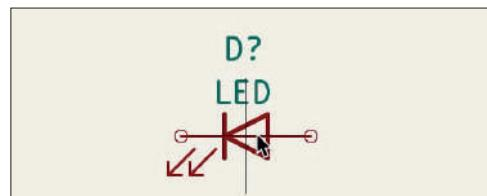

Figure 3.6.3: The new symbol in the editor sheet.
You can look for a symbol by typing a few letters of its name in the search box (1) or navigate the library and symbol list (2). In the example above, I am looking for the LED symbol, so I have typed “led” in the search box. The symbol chooser narrows down the contents of the listing pane (2) to symbols that contain “LED” in their name. I have clicked on the item in the first row. This prompts the symbol to appear in the symbol preview pane (3). Information about the selected symbol appears in the bottom left corner pane of the window. Some symbols also have associations with one or more footprints. You can choose one of the footprints by using the drop-down menu (4) and verifying that you have the correct association in the footprint preview pane (5). In my example, I don’t want to set an association at this time, so I leave the footprint dropdown unchanged and click OK (you may also double click on the device row (2) to select the symbol and dismiss the window). After you dismiss the symbol chooser window, the symbol will be tied to the mouse cursor. You will be able to move the symbol around the editor. Find a good location for it, and then left-click to place it (Figure 3.6.3).